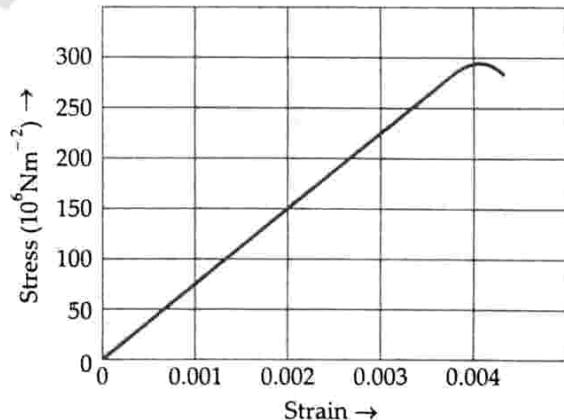

Fig. 9.32
9.2. Fig. 9.32 shows the stress-strain curve for a given material. What are (a) Young's modulus and (b) approximate yield strength for this material?